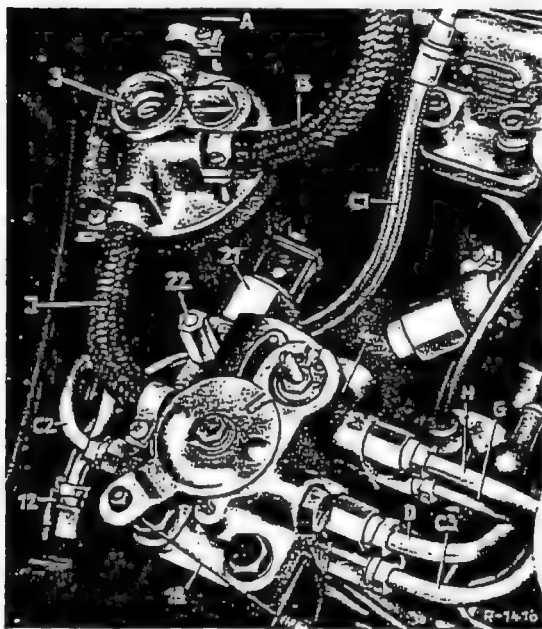

Fig. 32-18/1
2. Pull out the plug on the electric indicator (21) for the warning lamp (Fig. 32-18/1).